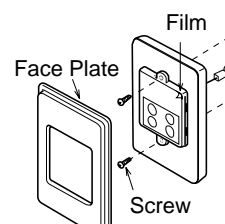

Fig. 4
6. Fix the controller to the wall using the appropriate fixings as shown in Fig. 4.
7. Remove protective plastic film from the controller face as shown in Fig. 4 and replace face plate.